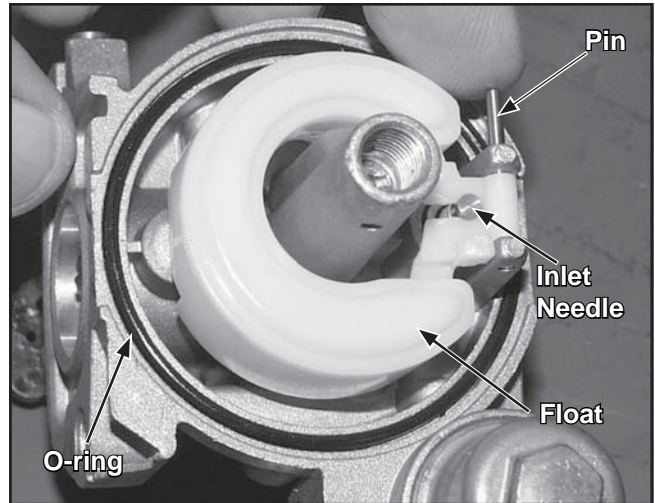

Figure 5-11. Removing Float and Inlet Needle.
2. Remove the float pin and lift out the old float and inlet needle. Discard all of the parts. The seat for the inlet needle is not serviceable, and should not be removed. See Figures 5-11 and 5-12.